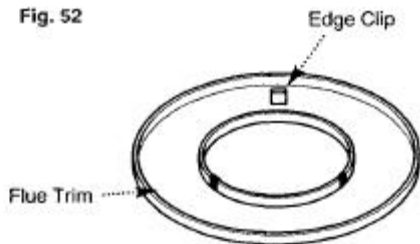

Fig. 52a
- b) Take the three edge clips from the kit and fit them equi-spaced onto the inner flange of the trim (Fig. 52a).